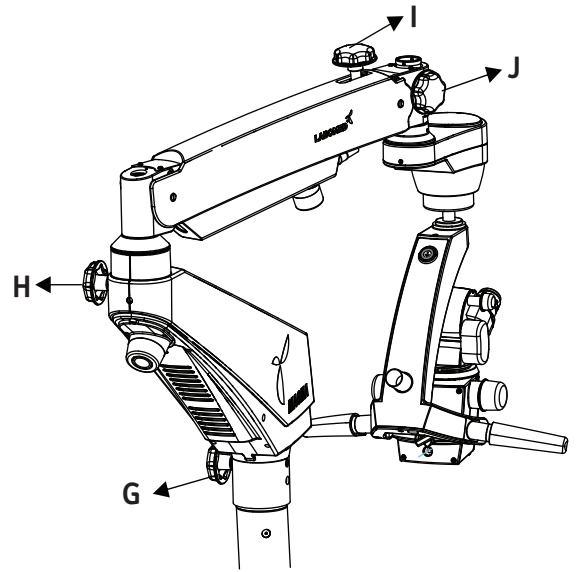

Fig. 17
This knob shown as (G) locks the movement of the Swivel arm at the desired position by turning it Clockwise as shown in Fig. 17.
This knob shown as (H) locks the movement of the Suspension arm at the desired position by turning it clockwise as shown in Fig. 17.
This knob shown as (I) locks the up/down movement of the Suspension arm at the desired height by turning it clockwise as shown in Fig. 17.
This knob shown as (J) locks the rotation of Auto Balancing Arm (ABA) at the desired position by turning it clockwise as shown in Fig. 17.